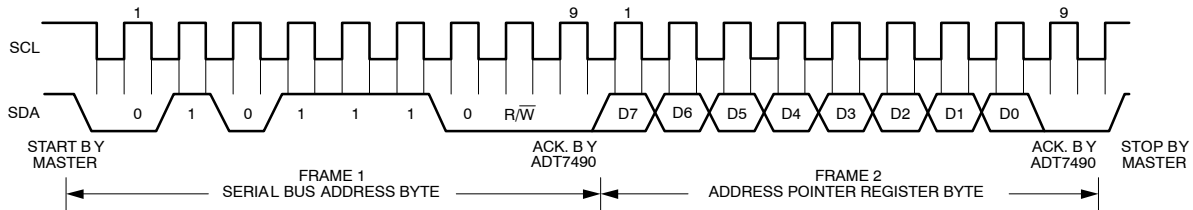
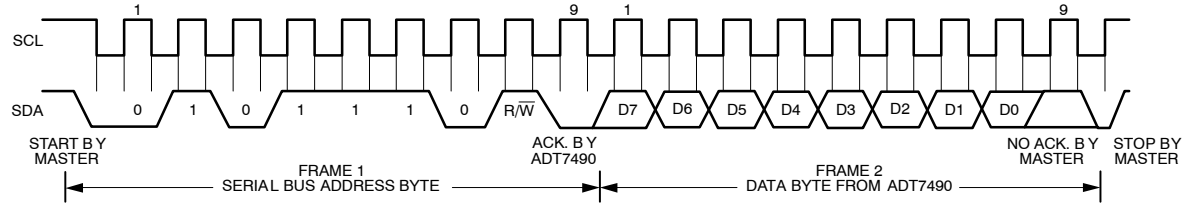

Figure 5. Writing to the Address Pointer Register Only
Figure 6. Reading Data from a Previously Selected Register
- If the NCT7491 address pointer register value is unknown or not the desired value, it must first be set to the correct value before data can be read from the desired data register. This is done by performing a write to the NCT7491 as before, but only the data byte containing the register address is sent because no data is written to the register. This is shown in Figure 5. A read operation is then performed consisting of the serial bus address, R/\overline{W} bit set to 1, followed by the data byte read from the data register. This is shown in Figure 6.
- If the address pointer register is known to be already at the desired address, data can be read from the corresponding data register without first writing to the address pointer register, as shown in Figure 6.